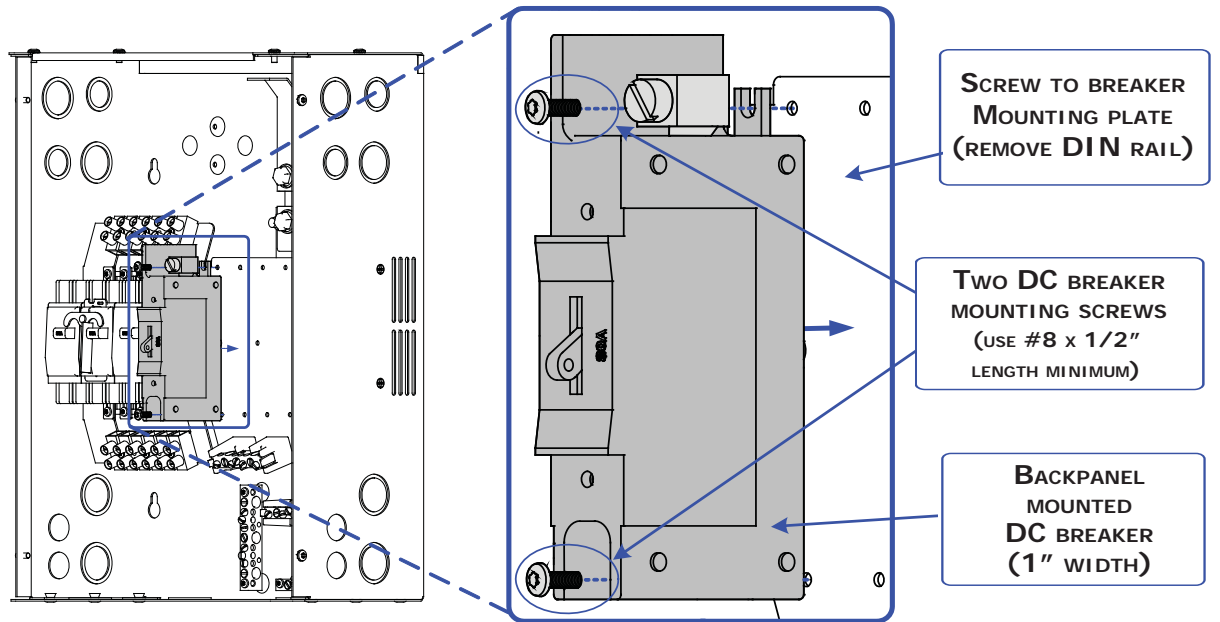

Figure A5-2, Installing Backpanel Mounted DC Breakers
**For back-mounted type breakers** (refer to Figure A5-2):